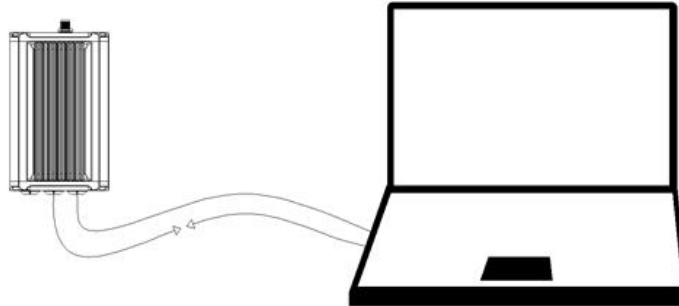

Figure 3.6 Outline of David30 connected to a Computer
1. Follow the connection in Figure 3.6 and the detailed steps in section 3.4.1 to create communication between a David30 receiver and Tersus GNSS Center.